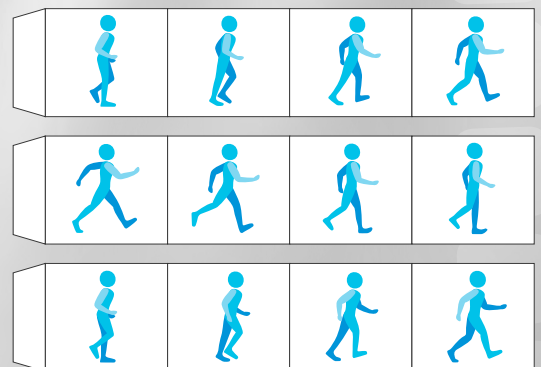

Figure 1
- Alternatively, you can draw a dancing cartoon character in each frame (see **Figure 1**).